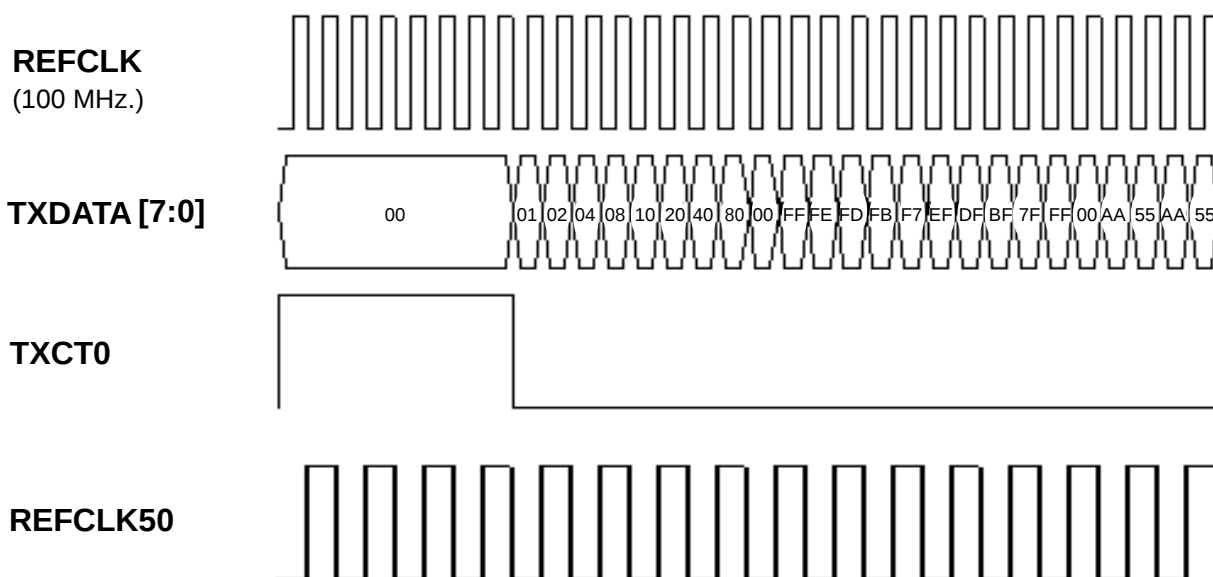

Figure 7-8. Generated Clock, Data and Control Signals for Encoded Mode from DG2020
1. Load the Cypress supplied file 0404EN.PDA in DG2020 data generator. If you are using a different data generator, use a waveform similar to the one shown in Figure 7-8.
3. Repeat the procedure for channel B. However, because REFCLKB is half the frequency rate, only every other data value will be clocked in. Therefore, the data output from the receiver will be either 05, 01, 04, 10, 40, ... or 05, 00, 02, 08, 20, 80, (see *Figure 7-8* on page 24).